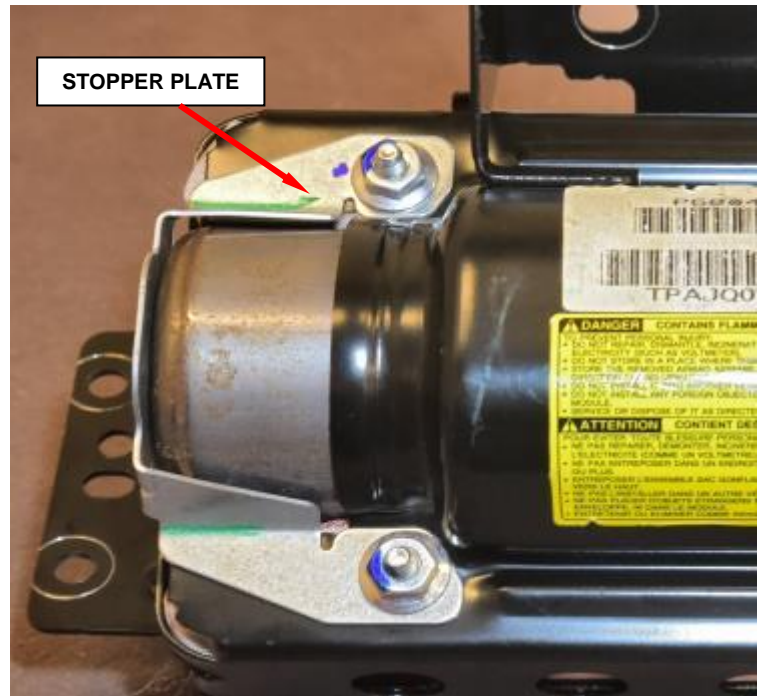

Figure 35 – Stopper Plate
- c. Remove and save stopper plate from housing (Figure 35).
- m. Position the stopper plate to the airbag housing (Figure 35).